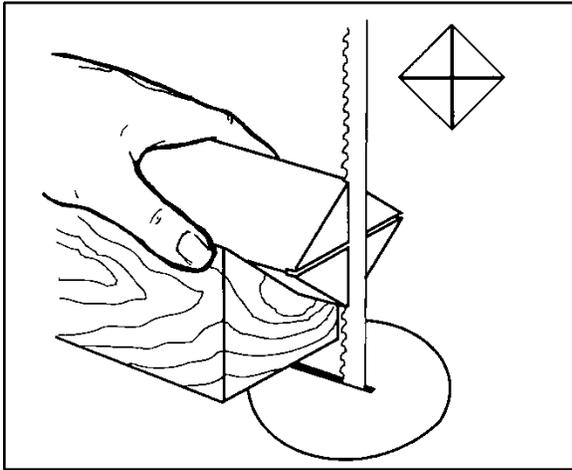

Figure 27
2. Extremely hard woods may require kerfs cut into the ends of the stock (Figure 27) using a band saw, so the wood will accept the spur center and the live center.